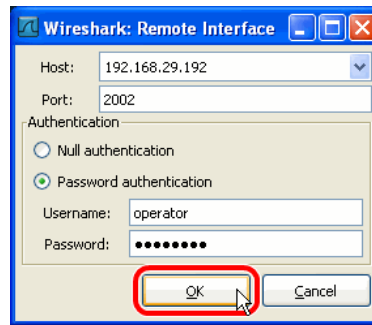

Figure 169: Wireshark Remote Interface Dialog.
4. Enter the correct settings for **Host** and **Port** (default 2002) and, if authentication is enabled, enter **Username** and **Password** in the corresponding fields as shown in Figure 169.